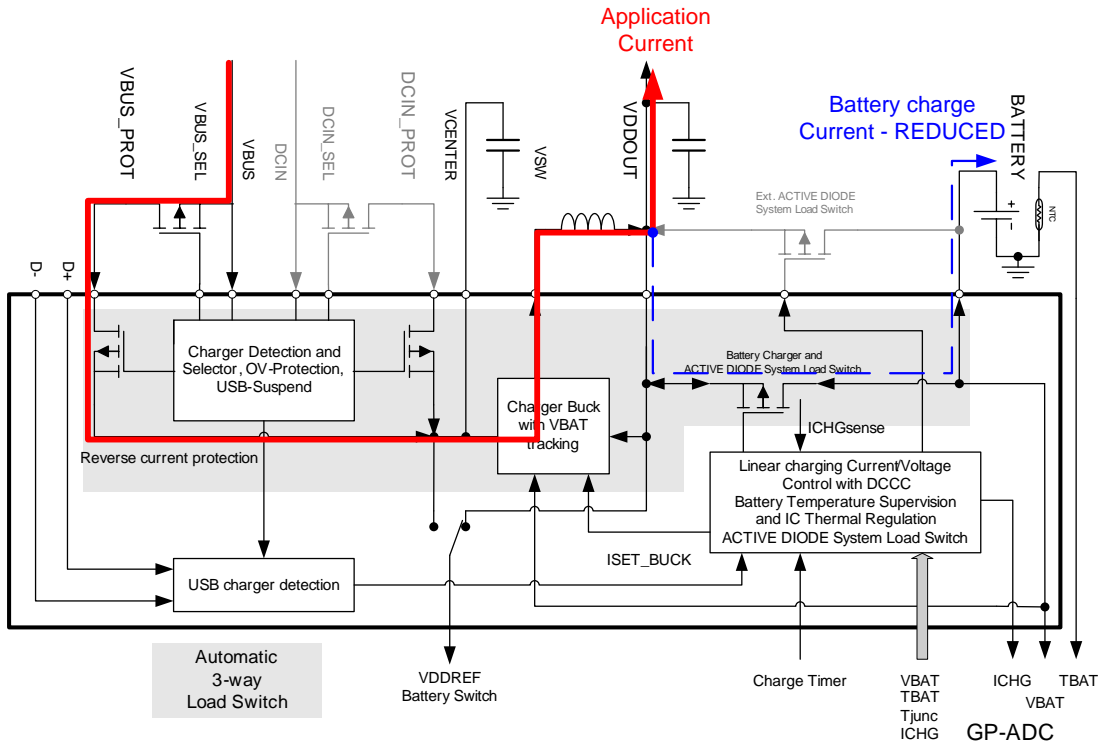

Figure 10: Current path from valid USB according to state B.
- B. If the combined load exceeds the input current limit ISET_BUCK, the linear charger stage automatically reduces the battery charge current to keep supplying the required system power. This is realised by reducing VDDOUT down to VBAT, which consequently reduces the charging current. It is then possible to charge the battery with any surplus current that is not required by the application (see Figure 10).